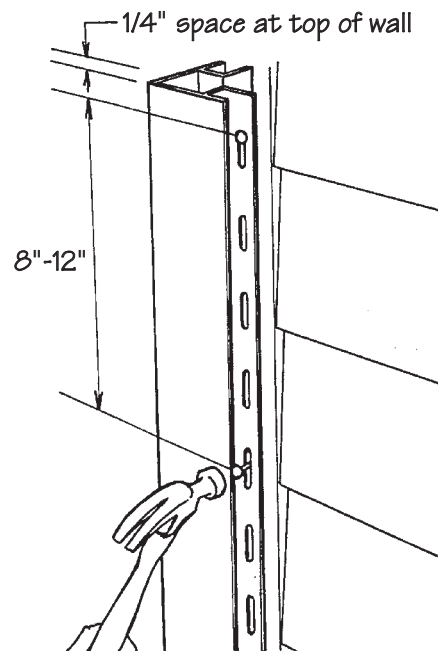

Figure 28.
- Place the corner post in position, allowing a 1/4" gap between the top of the post and the eave or soffit. Position a nail at the top of the upper slot on both sides of the corner post, leaving a 1/32" gap between the nail heads and the corner posts. The corner post hangs from these nails. The balance of the nailing should be in the center of the slot, 8" to 12" apart, again leaving 1/32" between the nail head and the corner post. This allows for the expansion and contraction to occur at the bottom. The corner post should extend 3/4" below the starter strip. Make sure the posts are plumb (i.e., vertically straight) (Fig. 28 and 29).